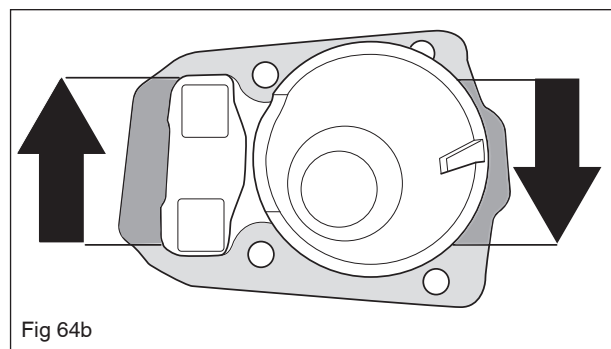

Fig 64b
4. Put a new cylinder base gasket in place. Apply silicone (Order No. 503 26 72-01) on the gasket as shown in figure 64b. Compress the piston ring and carefully push the piston into the cylinder opening.